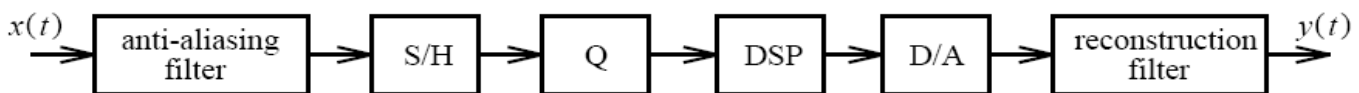

Figure 1: A block diagram of a practical DSP system.
Figure 1 shows a block diagram of a typical digital signal processing (DSP) system. On the Nexys 2 the ADC has a low pass filter with nominal cut-off frequency of around 500 kHz, however additional 10 kHz lowpass filters can be inserted at input and output. The Nexys 2 codec is implemented as separate analogue to digital (A2D) and digital to analogue (D2A) converters, these being represented by the sample and hold (S/H) plus quantiser (Q) and D/A blocks in Figure 1 respectively. Finally, the DSP block in Figure 1 is where the difference equation for implementing the desired digital filter is performed.
3. If the DSP block in Figure 1 is assumed to have a sampling frequency of 25 kHz and performs the following difference equation:  $y[n] = x[n]$ , (that is, the output of the A2D is copied directly to the input of the D2A) what is the frequency and approximate amplitude of the signal,  $y(t)$ , observed at the **output** of the reconstruction filter, when:
- a. What components of the block diagram in Figure 1 are contributing to your measured  $H(\omega)$ ?
- c. How can these distortions be explained? i.e., which components of Figure 1 are causing them? And what effect is aliasing having? Is your input signal amplitude too high?